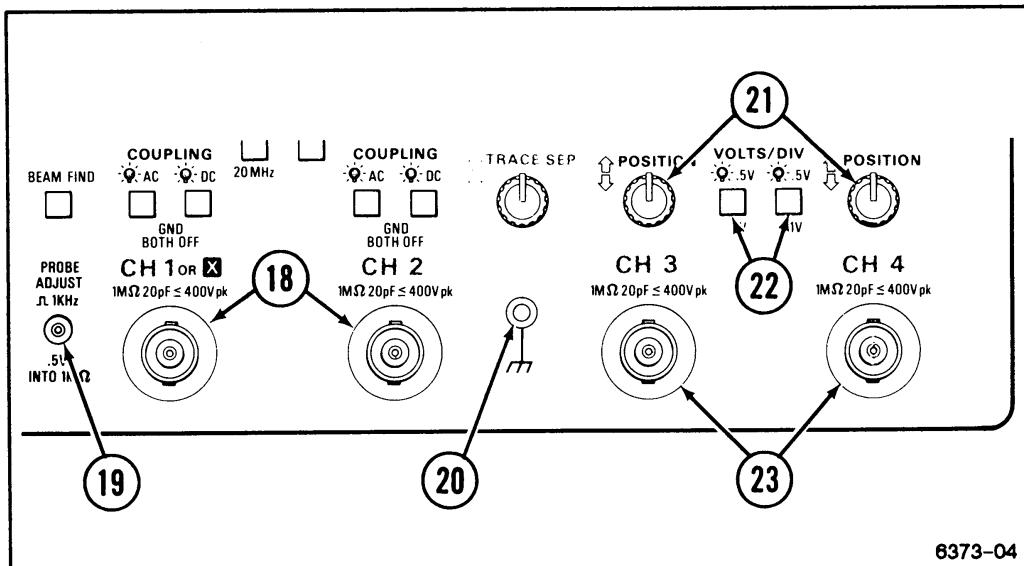

Figure 2-3. Vertical connectors and CH 3 and CH 4 controls.
Refer to Figure 2-3 for location of items 18 through 23
- (18) **CH 1 OR X and CH 2 Input Connectors**—Connect signals to the inputs of Channel 1 and Channel 2 vertical attenuators.